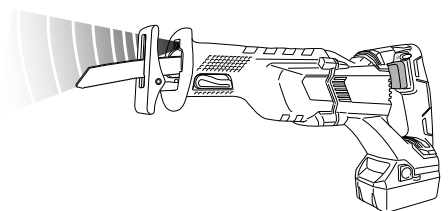

Fig. 35
10. LED light warning signals (Fig. 35)